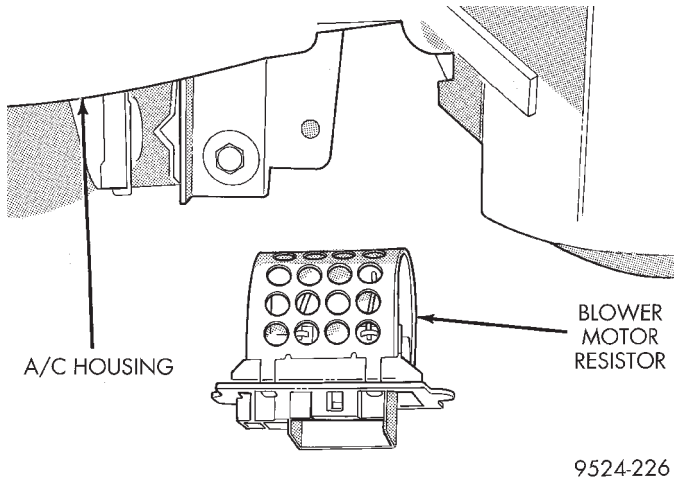

Fig. 15 Blower Motor Resistor
- (1) Remove lower right underpanel silencer/duct.
- (2) Disconnect wiring connectors on blower motor resistor.
- (3) Remove blower motor resistor retaining screws.
- (4) Pull blower motor resistor out of heater housing (Fig. 15).